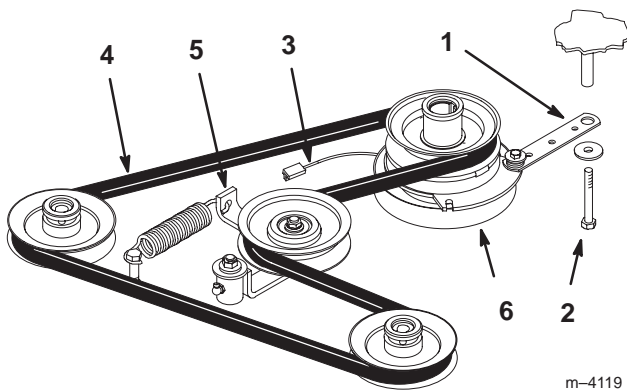

Figure 62
2. Remove bolt from clutch strap and unplug clutch electrical wire (Fig. 62).
3. Pull spring loaded idler to side. Remove traction belt from the engine and hydro pump pulleys (Fig. 62).
4. Install new belt around engine and hydro pump pulleys (Fig. 62).
5. Pull spring loaded idler to side and align belt. Release pressure on spring loaded idler (Fig. 62).